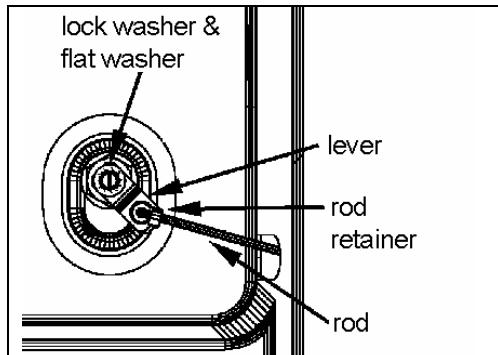

FIGURE 5
1. Detach the rod, the rod retainer and keep for later use. Remove the lever. Unscrew the nut that retains the lock and remove the lock (figure 5).